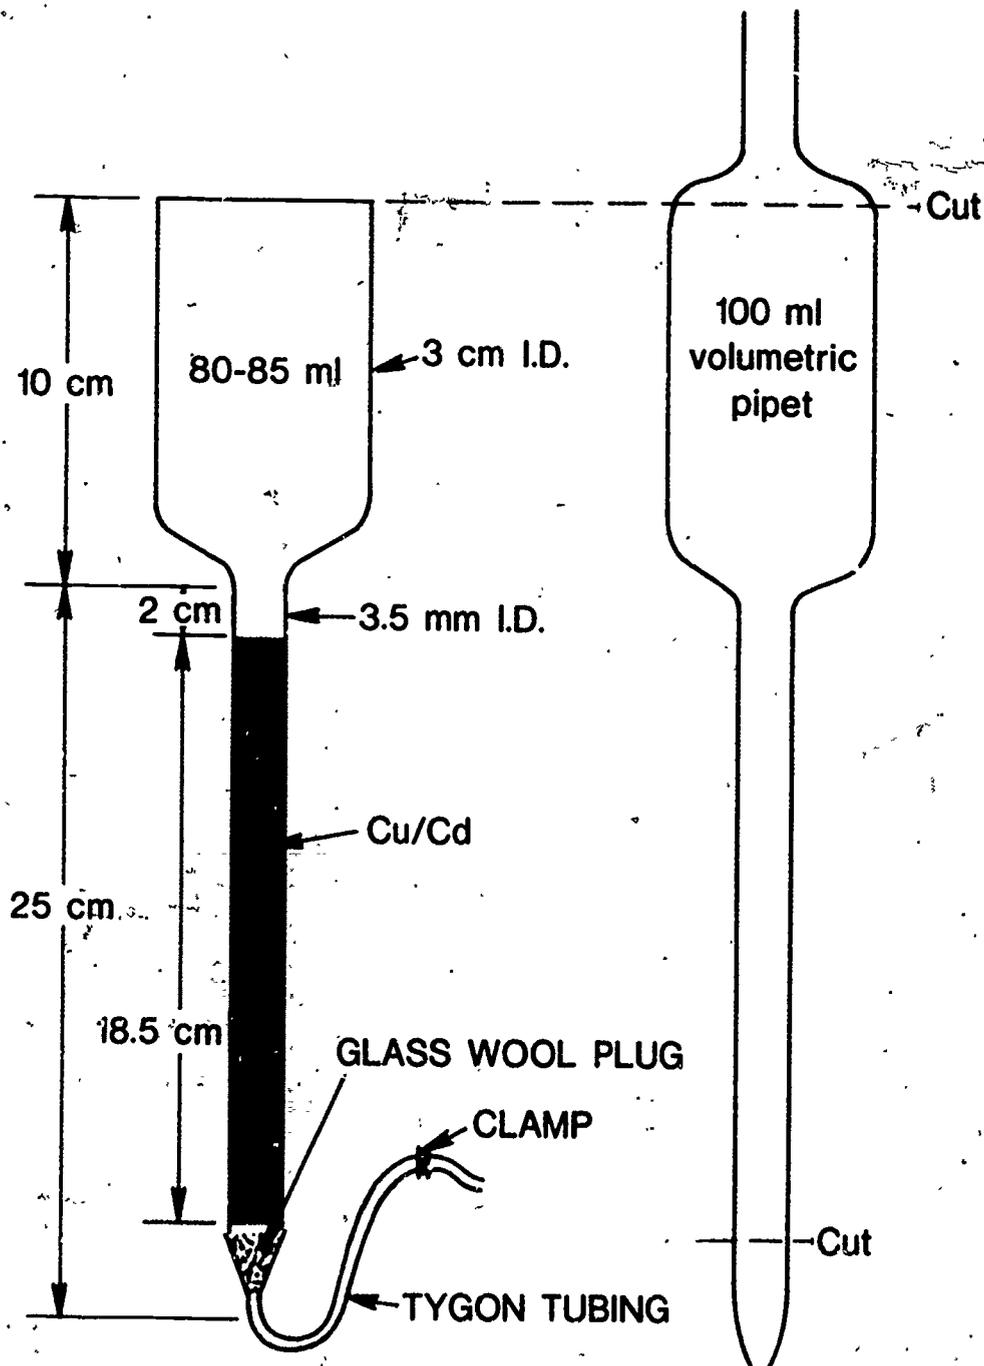

Figure 1. Reduction column
17. Two columns, reduction (see Figure 1 at the end of this section)